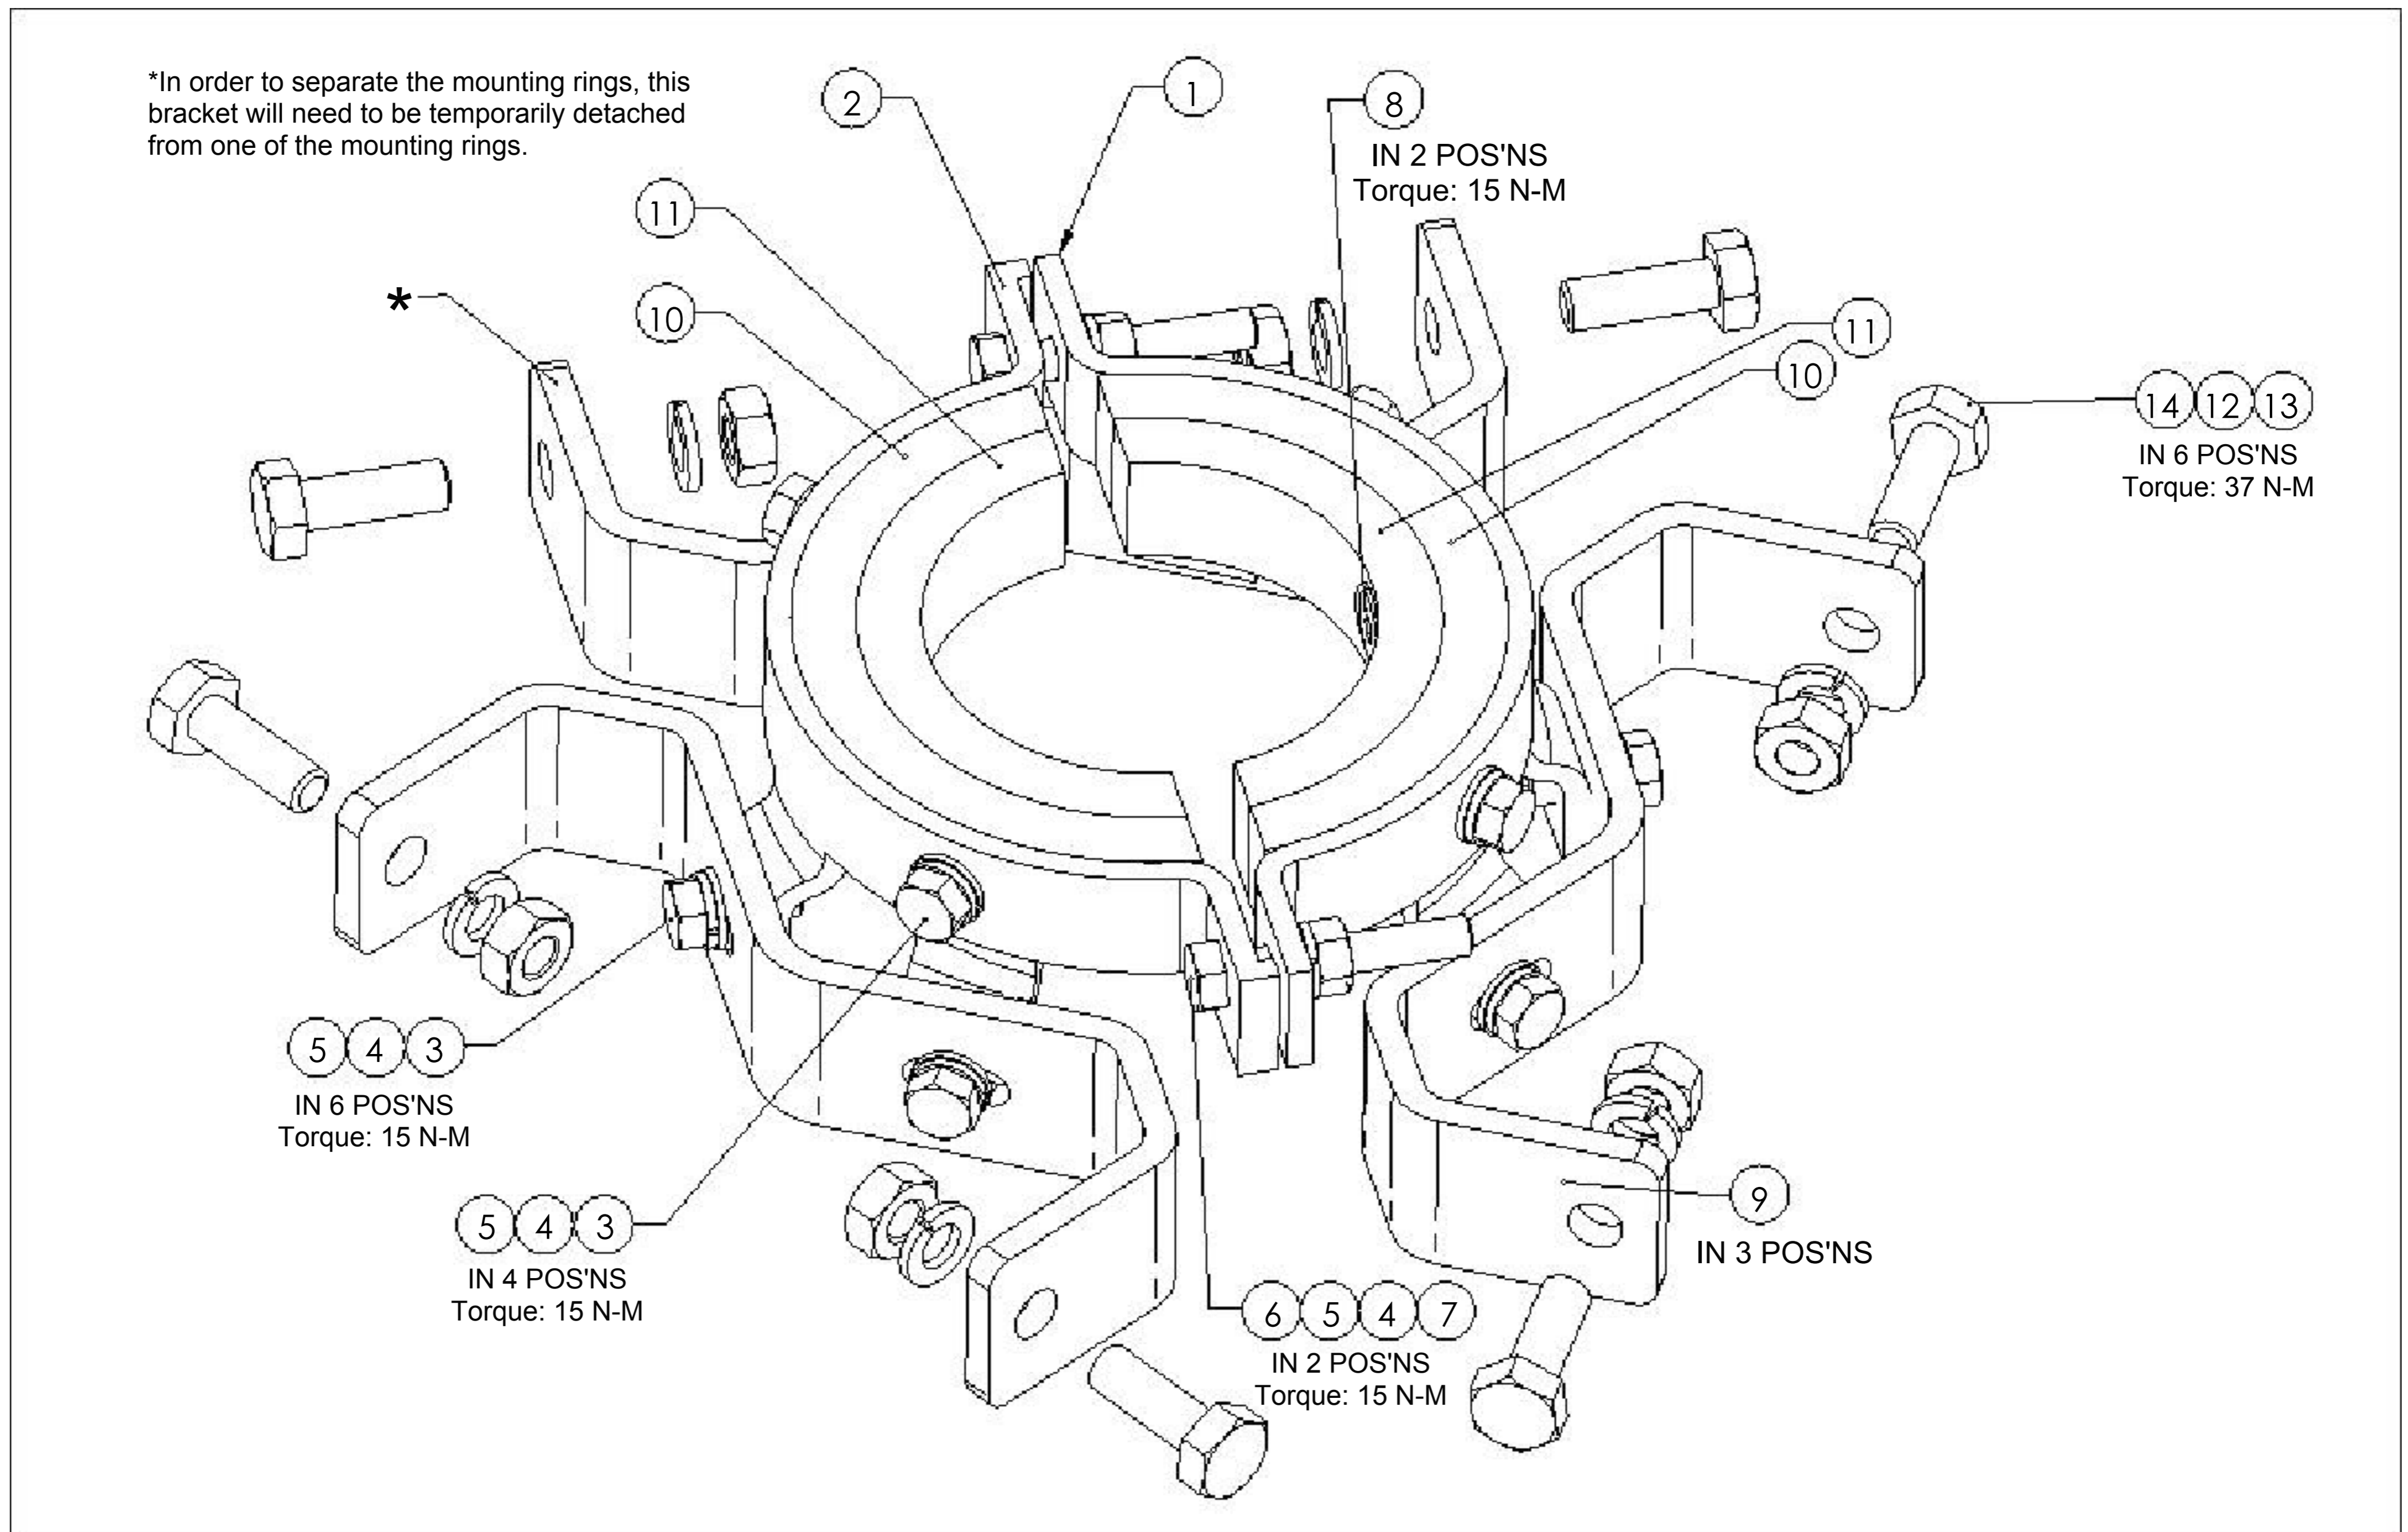

Figure 1. Top 800PIPEKIT-X Assembly.
2. Separate the mounting rings (Items 1 and 2, Figure 1) to prepare for attaching the assembly to the pole. Note that in order to separate the mounting rings, the bracket noted in Figure 1 will temporarily need to be removed from one of the mounting rings.
4. If the 800PIPEKIT-X assembly will be mounted to a 4.5" pole, remove the 3.5" pipe adapter (Item 11, Figure 1) and proceed to step 6.
5. If the 800PIPEKIT-X assembly will be mounted to a 5.5" pole, remove both pipe adapters (Items 10 and 11, Figure 1) and proceed to step 6.